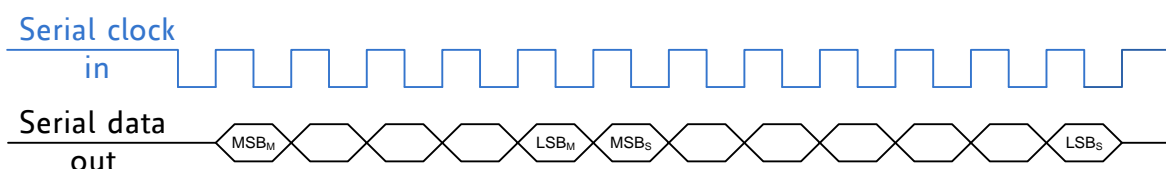

Figure 15.1 Example for SSI output configuration
- Set the number of the single- and multiturn data with *SINGLE\_TURN\_RES\_OUT* resp. *MULTI\_TURN\_RES\_OUT*. The real number of data bits is the given parameter setting + 1 (see Figure 15.1).